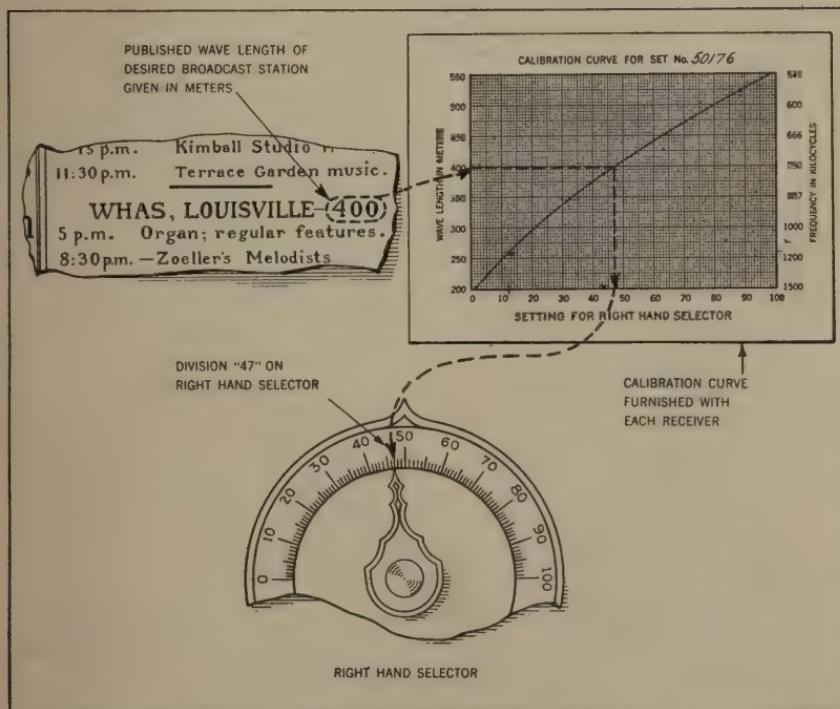

Fig. 20—Selecting Stations by the Calibration Curve Method
**Eighth**—Taking the wave length of a local or powerful station that is broadcasting, locate its tuning position on the right hand STATION SELECTOR by means of the calibration chart, Fig. 20. (This chart is located on the inside and at the back of the No. 601-B receiver cabinet and inside the upper right hand door of the No. 602-B receiver cabinet). Set the right hand STATION SELECTOR at this reading and then move the left hand STATION SELECTOR forward and backward about ten divisions above and below the setting of the other selector, until the station is located, slightly re-adjusting both selectors to get maximum response of signal for each selector. This maximum response can best be obtained by keeping the control marked "VOLUME" turned down while "sharpening" the tuning. Now, the "VOLUME" control can be turned up to obtain the desired strength of signal in the loud speaker. In no case should this VOLUME control be turned up to a point where the detector or 2nd audio tube is overloaded, as bad distortion results.
- (a) "Selecting Stations by the Calibration Curve Method" (Fig. 20).
An accurate calibration curve, Fig. 20, is furnished with each of the Nos. 601-B and 602-B radio receivers for this method of station selecting. Referring to this calibration chart, follow the particular horizontal line that corresponds to the published (or known) wave length (in meters) of the desired station, to the point of intersection with the red diagonal line.
At this point follow down on the vertical line to the numbering on the bottom of the chart, which gives the correct setting for the pointer of the right hand STATION SELECTOR. This is illustrated in Fig. 20, which shows how to select station WHAS (Louisville, Ky.) which has a wave length of 400 meters, the setting of the right hand STATION SELECTOR in this case being found to be 47.
It will be noticed that the right hand side of the "Calibration Curve" diagram is marked "Frequency in Kilocycles," this being another and more scientific way of designating the radio frequency of a broadcast station. The frequency of a station tuned-in, can be found by using the above method, but instead of following the horizontal line to the left as given in the "third" paragraph, follow this horizontal line to the right and read the "Kilocycles." In the case cited above, a right hand STATION SELECTOR reading of "80" would give a frequency of 600 kilocycles for the calibration curve shown in Fig. 20. Thus, a Stromberg-Carlson No. 601-B or No. 602-B Radio Receiver is a fairly accurate "wave meter" when used as above described.